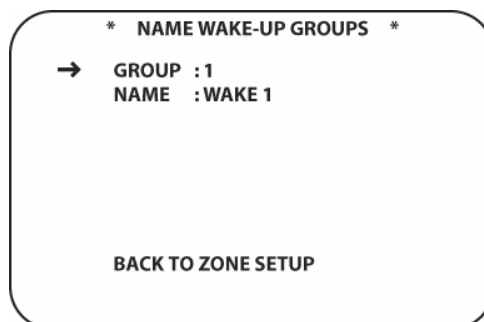

Figure 105 Name Wake-Up Groups Screen
1. From ZONE SETUP PAGE 1, with the cursor next to NAME WAKE-UP GROUPS, press the **Set Button [oval 18]**. The NAME WAKE-UP GROUPS screen will appear. (**Figure 105**)